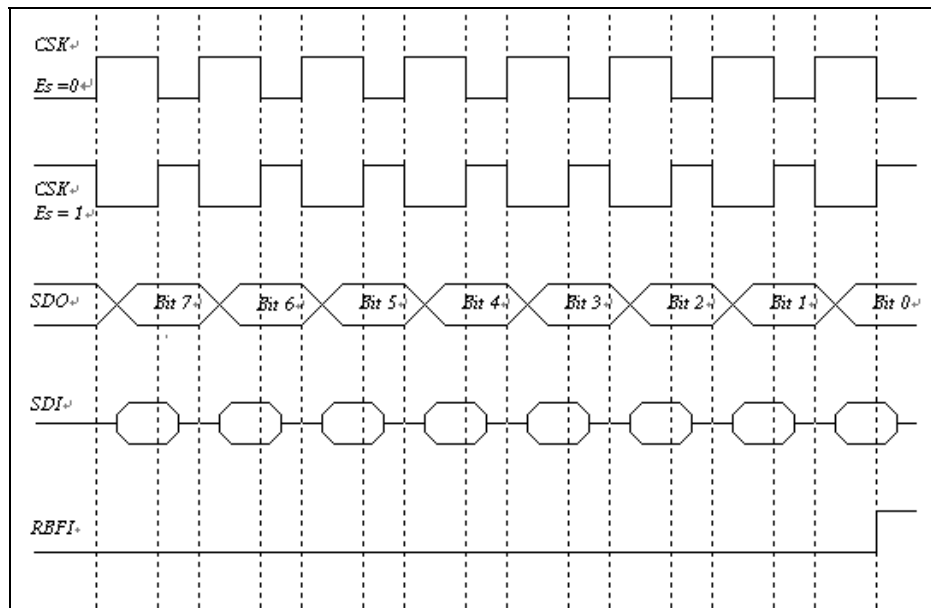

Figure 6-17a SPI Mode with /SS Disabled Timing Diagram
- Timing is shown in Figures 6-17a and 6-17b below (Section 6.7.4).